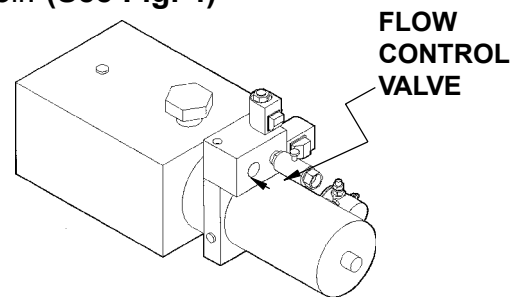

FIGURE 4
- 9.** Check the Flow Control Valve. The arrow on the valve shows the direction of flow that is restricted, and Must point back to the Reservoir. **(See Fig. 4)**